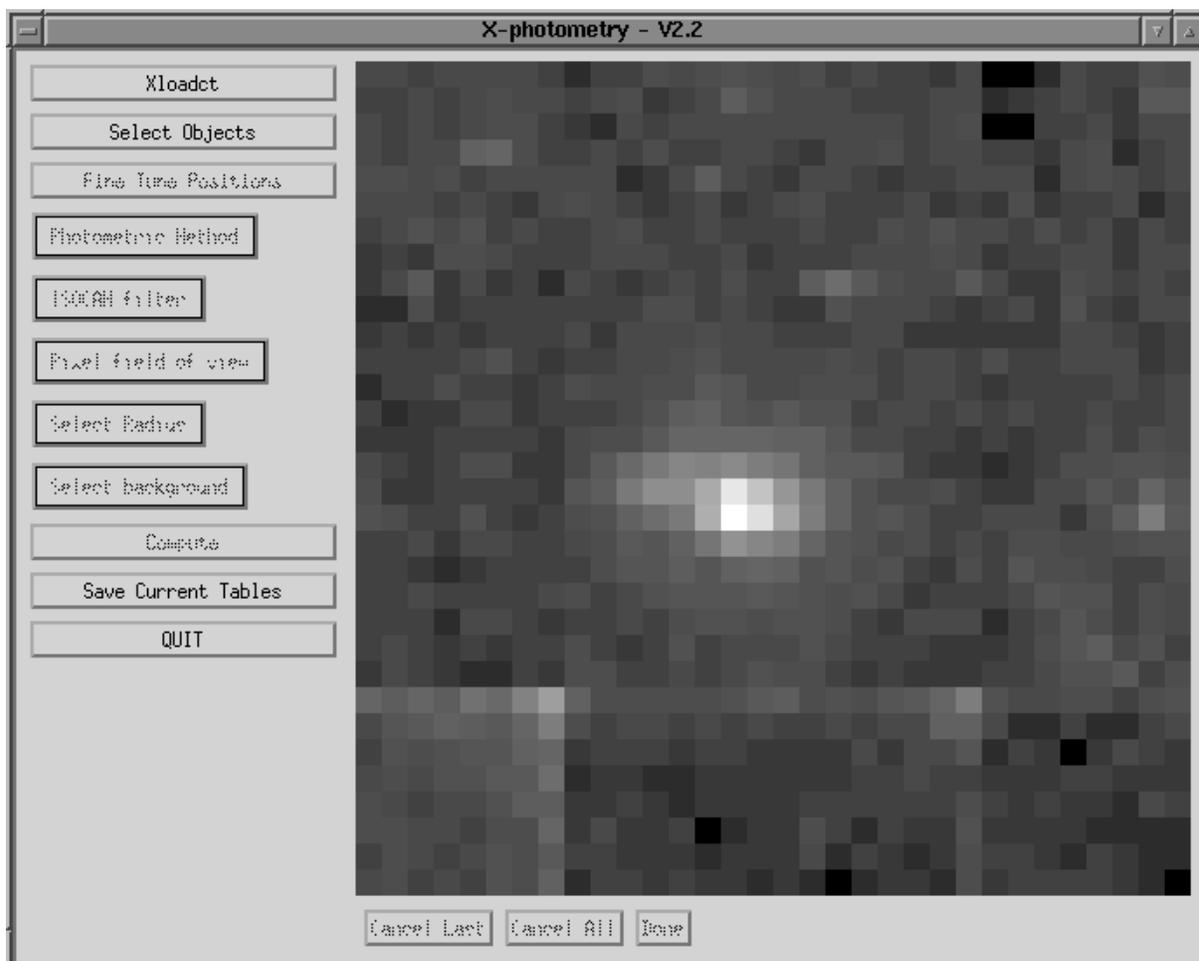

Figure 14.1: The **xphot** window.
2. Take a look at Figure 14.1. It contains the image we supplied when invoking **xphot**, i.e. a raster MOSAIC, and a number of buttons. The button *Select Objects* is highlighted, so the first action you must take is to select the sources that you wish to do photometry on. Click on *Select Objects* to begin the selection process. A pop-up window will appear with some information – read and dismiss. Now you can choose your sources by clicking on the image. In the example image displayed in Figure 14.1 there is clearly only one source. Click on *done* when you are finished making the selection.